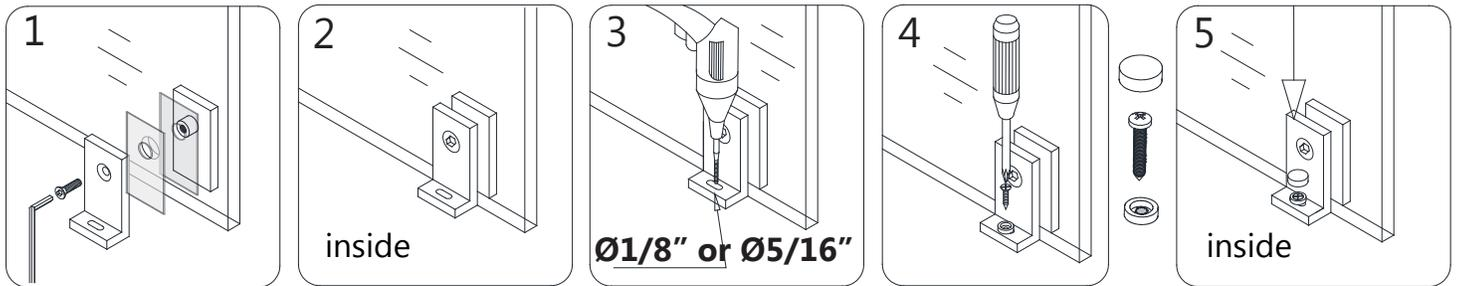

Fig 14
12. After final adjustment is complete, secure both lites of the **Stationary Glass** to the threshold. Assemble the **Bottom Brackets (#15)** onto the bottom of the **Stationary Glass**, using the gaskets to prevent glass to metal contact. Drill the holes in the Shower base through the holes in the flange of the **Bottom brackets (#15)** using an **Ø1/8" drill bit for an acrylic base** (or a **Ø5/16" drill bit and use an anchor for installation into a tile threshold**). Fasten the bottom brackets with the **Pan Head Screws ST4.2×25 (#08)** and washers. Cover the screw and washer with the **Decorative Covers (#10)**. (Fig 14)